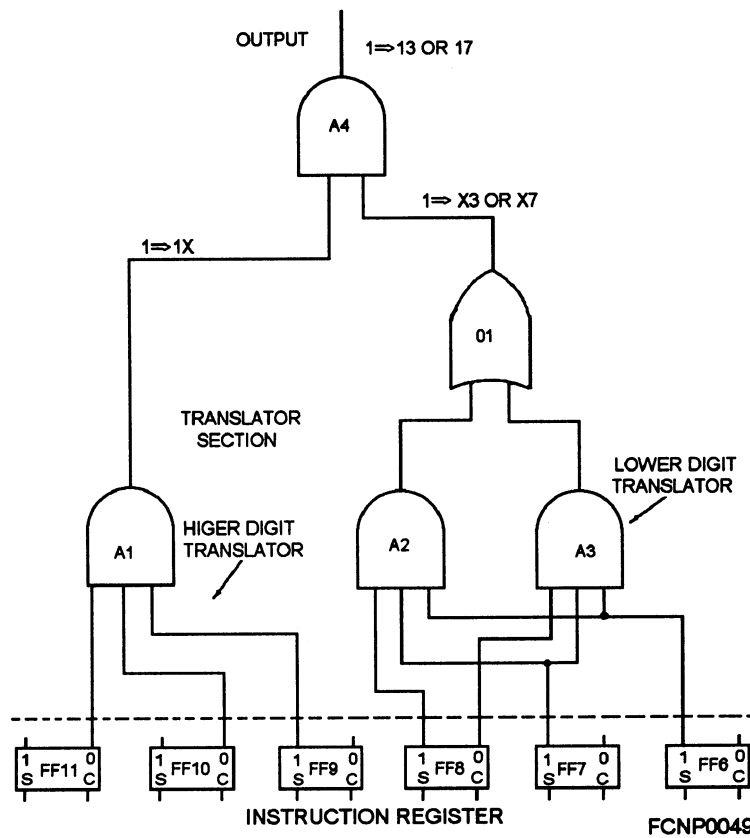

Figure 5-4.—Example of instruction translation and execution circuitry.
**INSTRUCTION REGISTER.** —To translate and execute the instructions, the outputs of the instruction register are fed to logic circuits (**selectors** and/or **translators**) that are used to translate the binary codes into **commands** for the CPU to execute (fig. 5-4).